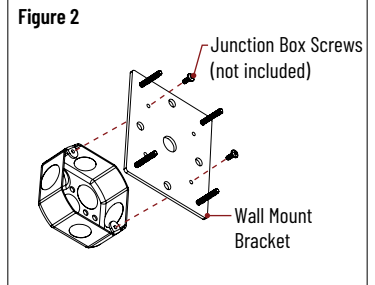

Figure 3
4. Attach cylinder to wall mount bracket and screw on caps. (Figure 3)